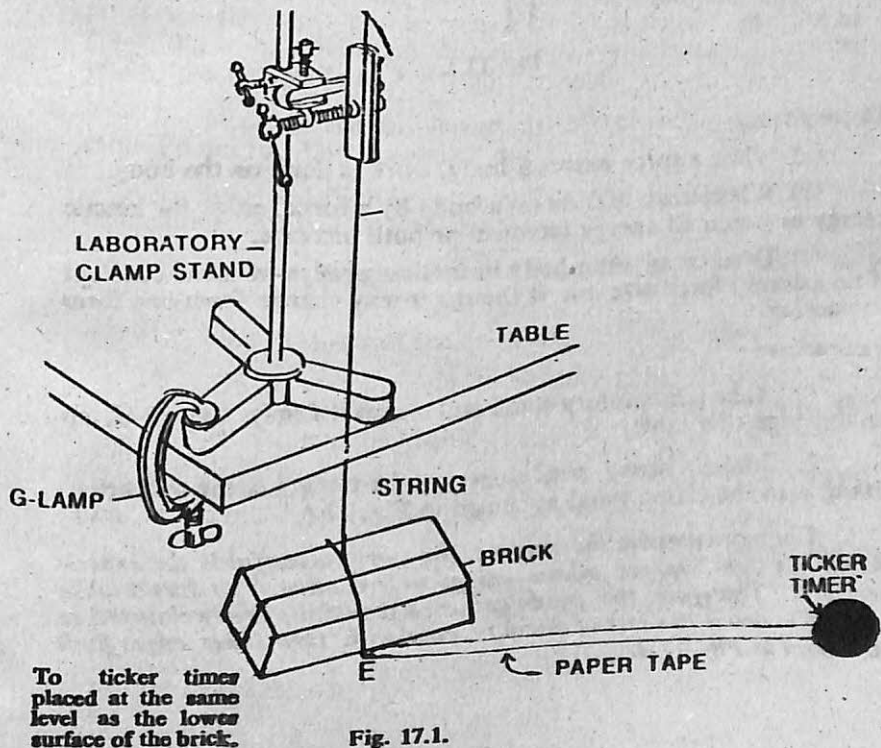

Fig. 17.1.
2. Make a heavy pendulum bob by tying a string to a brick. Hang it to the clamp stand as shown in Fig. 17.1.